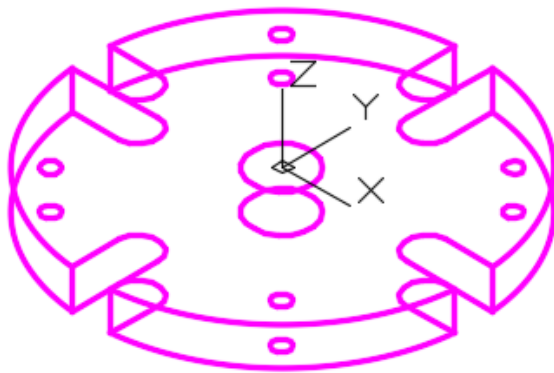

Figure Step 11
Step 11 Enter the UNITS command. In the Units dialogue box, set the Insertion Units to Millimeters. Insert the key: AutoCAD 3D Workalong 03-2. It will overlay the model with a magenta model. (Figure Step 11)